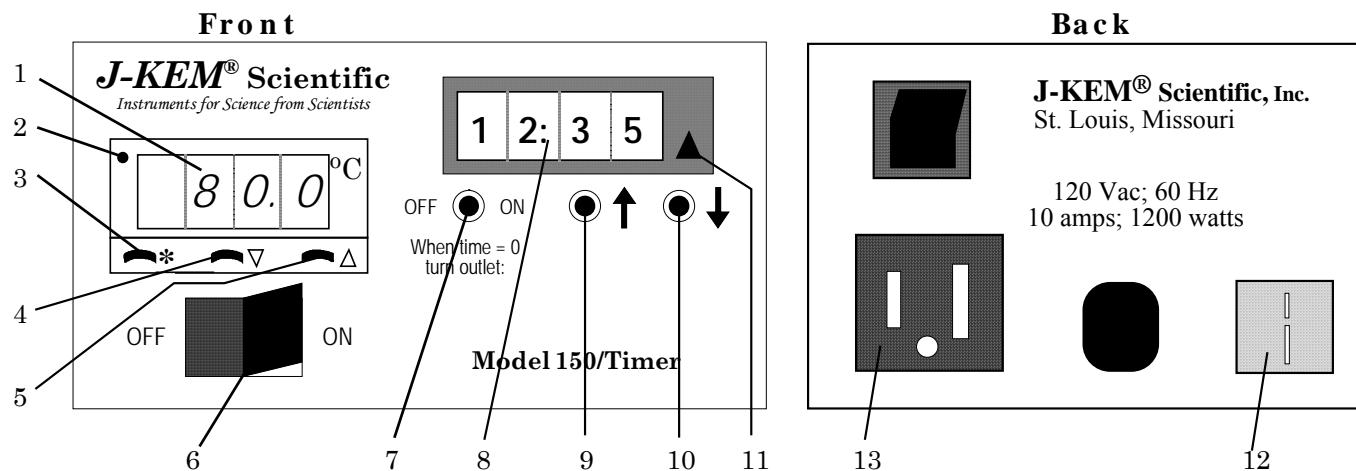

Figure 1
3.5 Temperature Sensor Input. Each controller is fitted with a specific *type* of temperature sensor input and can only be used with a temperature sensor of the same type (thermocouple or RTD). For the correct temperature to be displayed, the thermocouple type must match the receptacle type on the front of the controller (Figure 1; #12). All thermocouples are color coded to show their type (Blue = type T; Yellow = type K; Black = type J). The color of the thermocouple plug must match the color of the receptacle on the front of the controller. If the temperature sensor is broken or becomes unplugged, the error message “**FAIL**” “**inPt**” appears in the display and the controller stops heating.